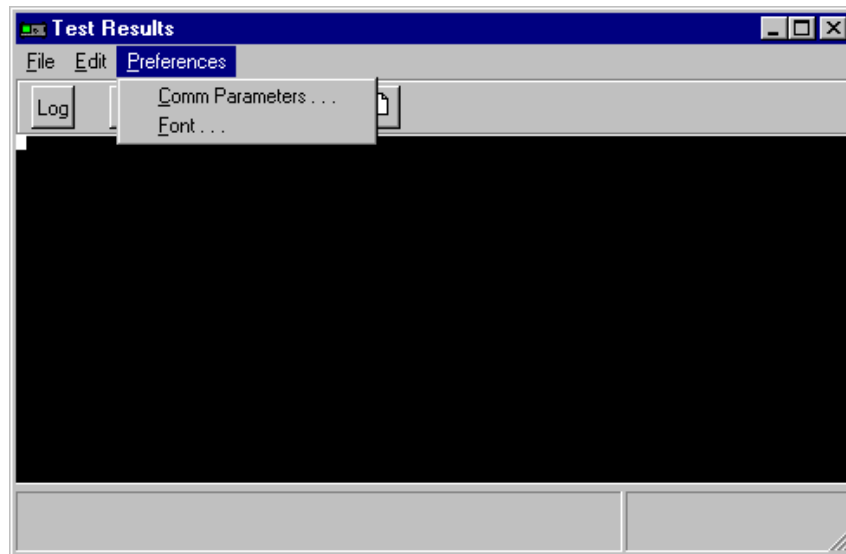

Figure 25 **Comm Port Setup Screen**
3. On the PC screen, click on the **Preferences** field, then click on the **Comm Parameters** field to display the Comm Port Setup screen (figure 25).